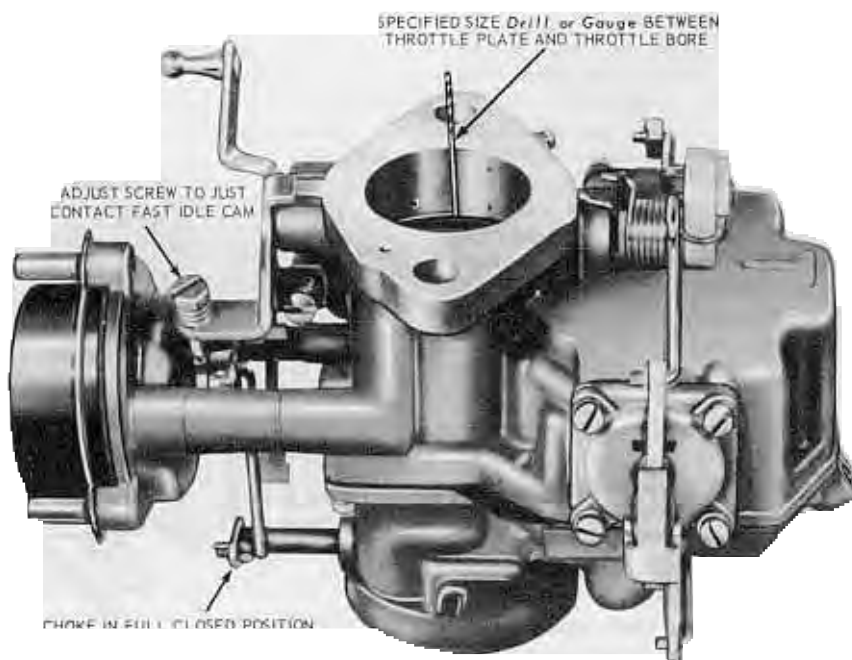

FIG. 1—Fast Idle Cam Linkage Adjustment—Ford 1-V
1. Insert a gauge pin or drill of the specified clearance (Part 10-8) thickness between the throttle plate and the side of the throttle bore. Hold the throttle plate against the gauge pin or drill (Fig. 1). Close the choke plate and turn the fast idle screw inward until it just contacts the fast idle cam.